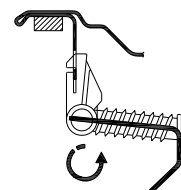

Fig 3
11. Unscrew the fixing clip screws fully then rotate the hook section of the fixing clips away from the sink edge (fig. 3), this will clear the clips of the cut out when fitting the sink.